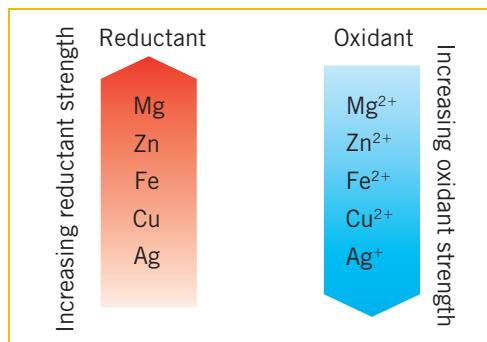

Figure 9.2 Relative strengths of some reductants and oxidants
The reactivity or displacement series of metals shows that some reductants (and hence some oxidants) are more reactive than others. For example zinc will displace (form) copper from solutions containing copper ions, but copper will not react with a solution containing zinc ions. Figure 9.2 lists some common metals and metal ions in order of reductant strength and oxidant strength. Note that the positive ions of metals that are strong reductants are themselves weak oxidants, while the positive ions of the metals that are weak reductants are quite strong oxidants.
- 2 Use the information in Figure 9.2 to write the two half-equations and the overall ionic equation for any reaction that takes place when the two substances named are combined.
- b Magnesium is added to a copper(II) sulfate solution.